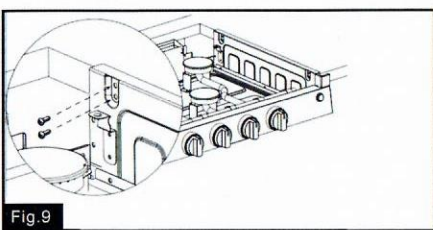

Fig.9
5. Use four tapping screws on both left and right to secure the cooktop onto the cabinet. (Figure 9)